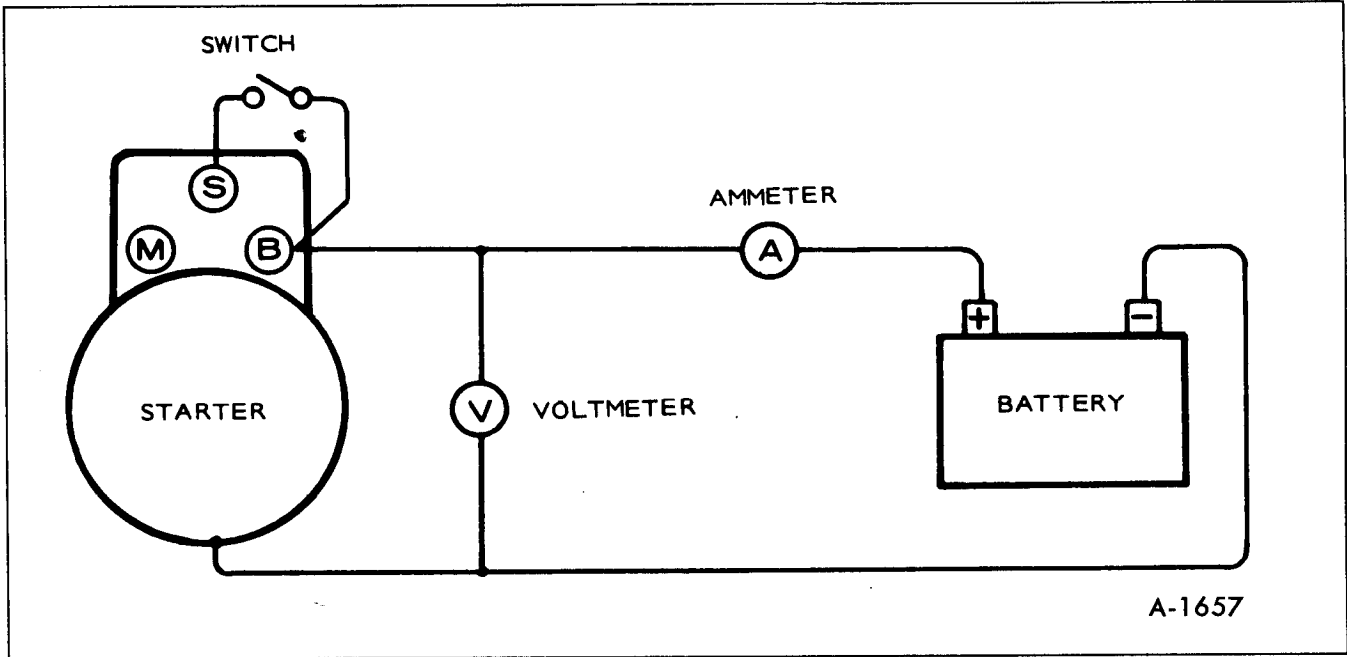

Figure 71—No Load Test
**NO LOAD TEST:** For this test connect starter as shown in Figure 71. The values of this test should be as follows: